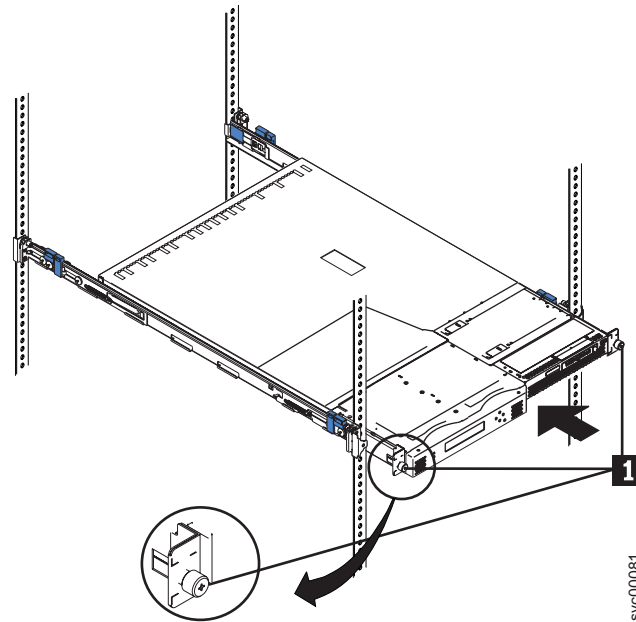

Figure 96. Installing the SAN Volume Controller 2145-4F2 into a rack
3. Fully tighten the two captive thumbscrews (**1** in Figure 96).